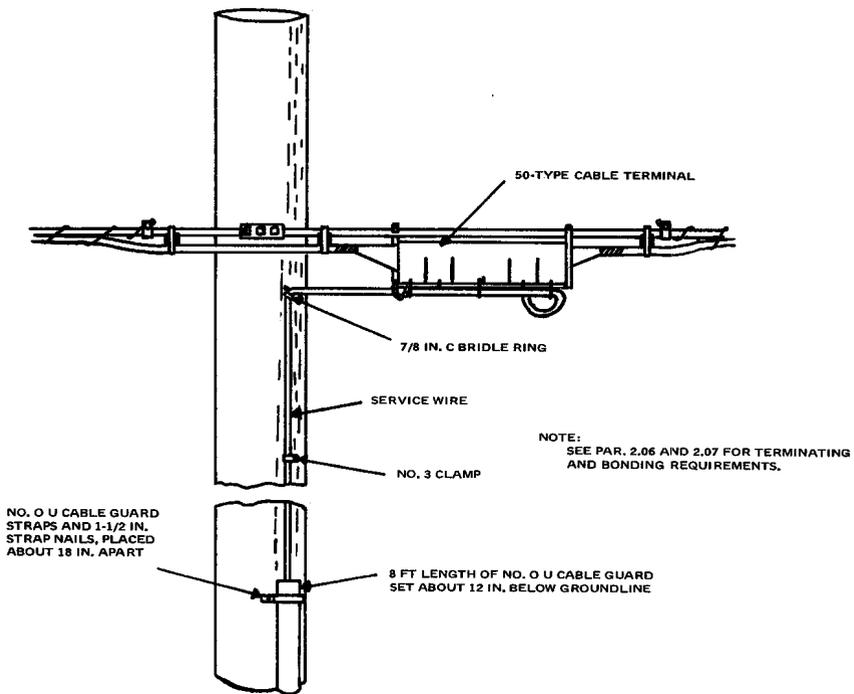

FIGURE 1. Buried Plant Run up a Pole
2.03 Buried service wire can be brought up a pole and terminated directly in a pole or strand mounted cable terminal or cable closure if the cable conductor is 24 or 26 gauge. Where fuseless protectors are used at the station and the cable conductor is 22 gauge or 19 gauge and exposed to power contact, a fusible link is required between the cable pair and the service wire. The 24 gauge conductors in a cable stub or the connecting block of a 49 type cable terminal are satisfactory fusible links. At the groundline, the wire should be protected with an 8 foot length of No. 0 U cable guard. A typical installation terminating in a 49 type cable terminal is shown in Figure 1.